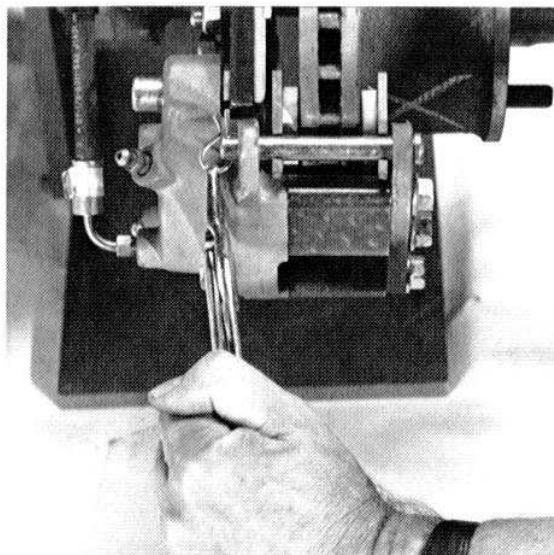

Fig. 23
4. Remove clip pins from end of clevis pins and pull out clevis pins (Fig. 23).
4. Install clip pins in holes on end of clevis pins. (Fig. 23)